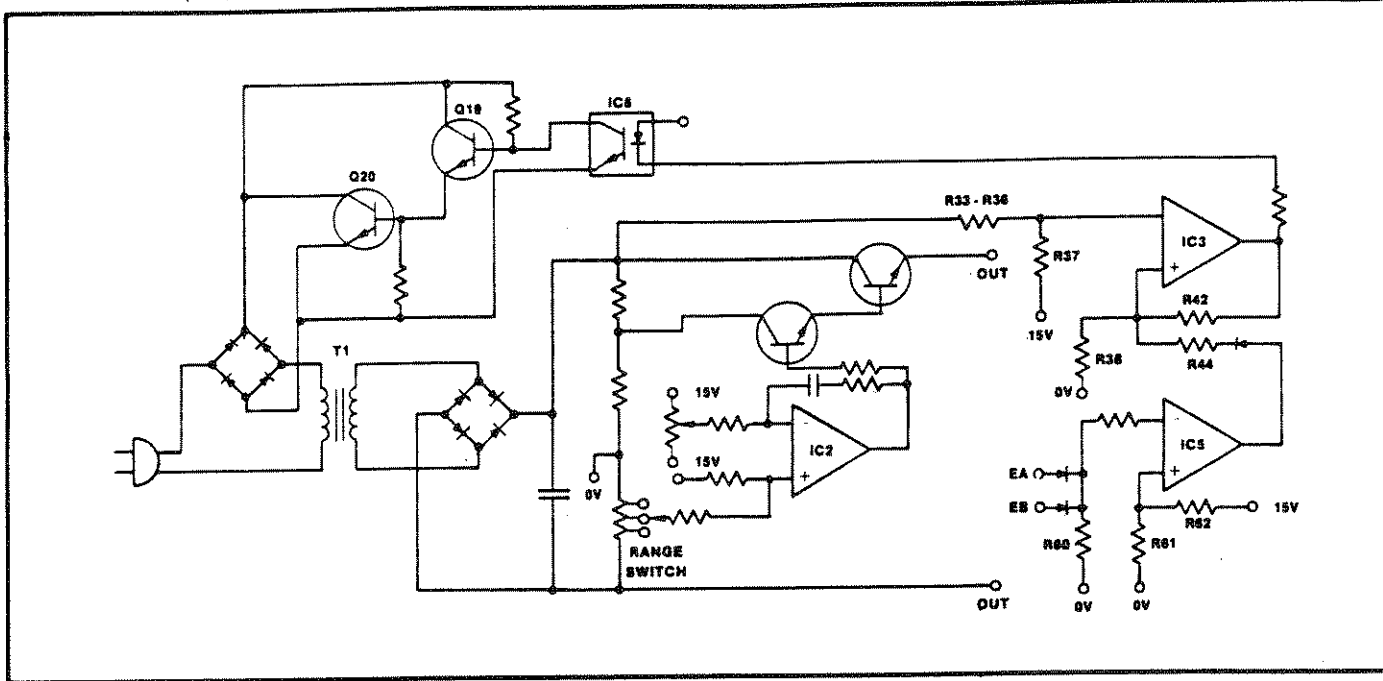

Figure 4-2. Simplified Schematic Diagram,
4.15 To facilitate an understanding of circuit operation, a simplified diagram of the high-voltage power supply and output regulator circuits is included as Figure 4-2. Its purpose is to provide an overall view of the circuit interconnections. It is not intended to replace the complete schematics, although the reader may wish to refer to this diagram as well as those of Figures 5-3 and 5-4. Note that all circuit components are not included in Figure 4-2 and, also, that some that are may not be identified.
4.17 The switching power supply provides the power for the instrument's series regulator which provides the output voltage. Primary power is applied to transformer T1 through a diode bridge consisting of diodes CR42 through CR45. Transistor Q20, connected across the DC output terminals of the diode bridge, is driven by Q19. Q19 is driven, through optical isolator IC6, from comparator IC3 and zero crossing detector IC5. The bridge acts as an open circuit unless Q20 is conducting. When Q20 is turned on, the bridge conducts in both directions, permitting the primary AC to pass to the transformer. With Q20 conducting continuously, the bridge consisting of CR50 through CR53, connected to the secondary of T2, rectifies the AC, providing approximately 1500 volts DC to filter capacitors C9 through C12. Lower voltages are produced when Q20 does not conduct continuously. Resistors R128-R145 equalize the voltage across the filter capacitors. Note, as shown in Figure 4-2, that the high voltage power supply has a resistance path from positive to negative which is tapped to provide a ground connection. The drop across the resistance from positive to ground will be maintained at approximately 100 volts by the circuit of IC3 and IC5. IC2 utilizes the drop across the resistance connected from ground to the negative terminal as a sense input to the summing junction at its non-inverting input.